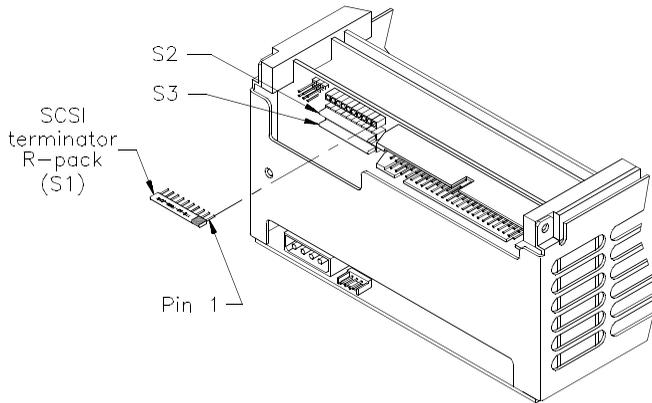

Figure 3 Location of R-packs (single-ended configuration)
1. Locate the R-packs on the back of the tape drive, as shown in Figure 3.
If you need to put the R-packs back in the tape drive, make sure that pin 1 of each R-pack is aligned with pin 1 of the socket and that no pins are bent. As shown in Figure 3, the writing on the R-pack should face upward. Pin 1 of the R-pack is marked with a colored line or dot and should line up with the right side of the socket.